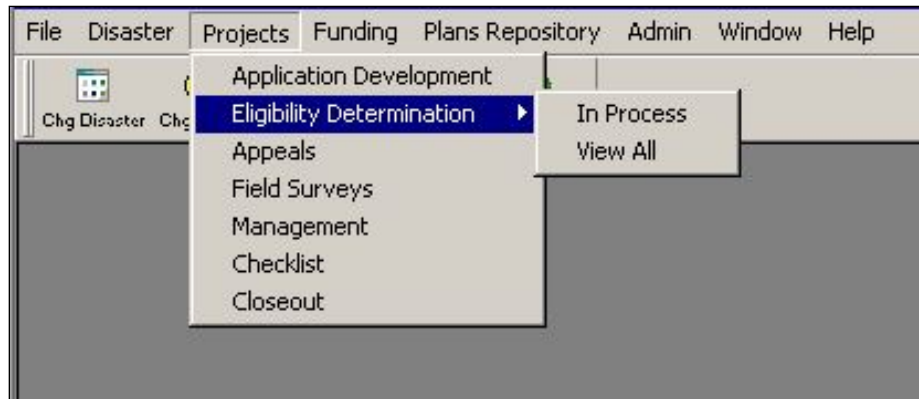

Figure 8-1: Mitigation >Projects >Eligibility Determination >View All
1. On the MITIGATION menu bar, click on Projects > Eligibility Determination > View All (Figure 8-1).